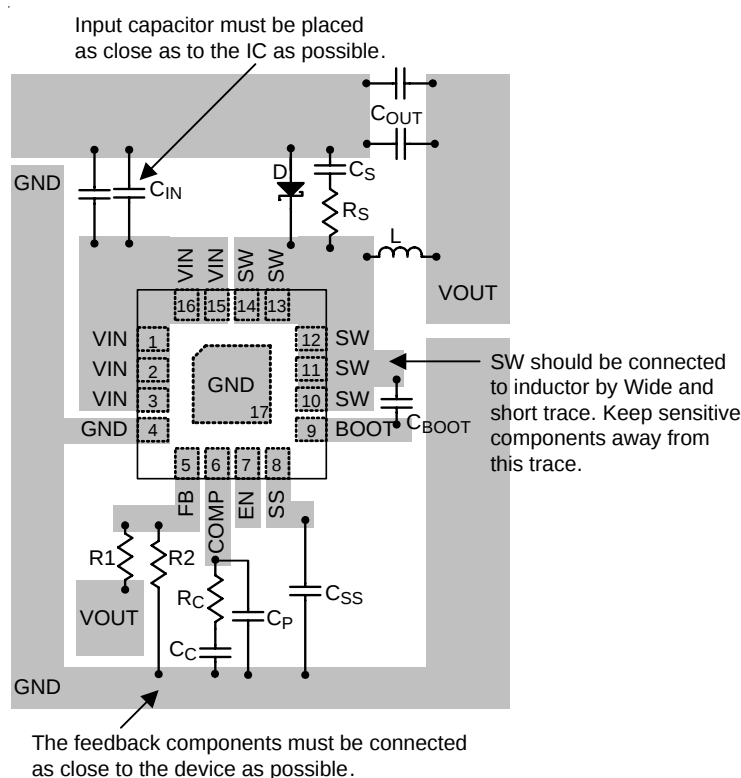
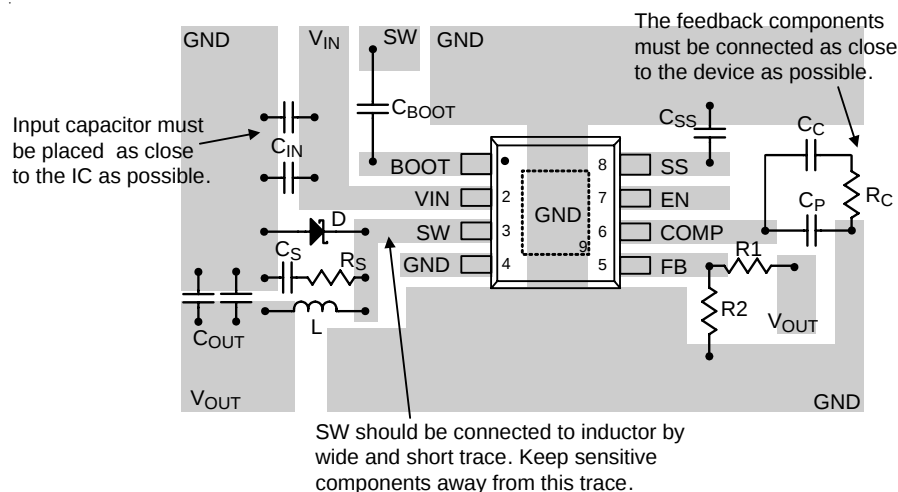

Figure 9. PCB Layout Guide for WQFN Package
Figure 10. PCB Layout Guide for PSOP-8 Package
- Examples of PCB layout guide are shown in Figure 9 and Figure 10 for reference.